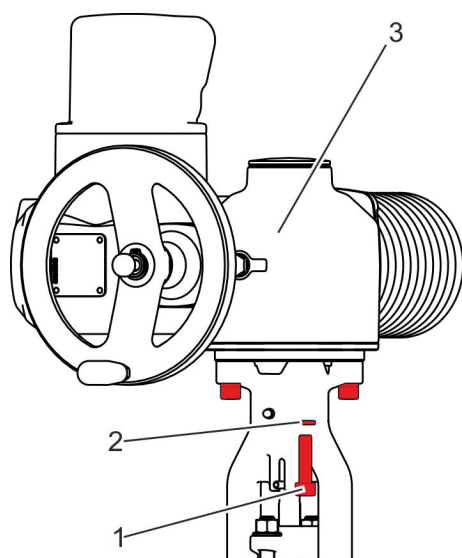

Fig. 38: Fastening the electric actuator
10. ➔ Fix the actuator (Fig. 38/3) to the bonnet using screws (Fig. 38/1) and washers (Fig. 38/2).
Tighten the screws (Fig. 38/1) as specified by the manufacturer.